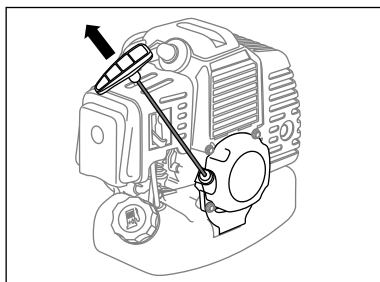

fig. 12
• While holding the trimmer, pull the handle of the starter until it "ignites". Quickly pull the starter handle. Repeat these steps until the engine starts (fig. 12).